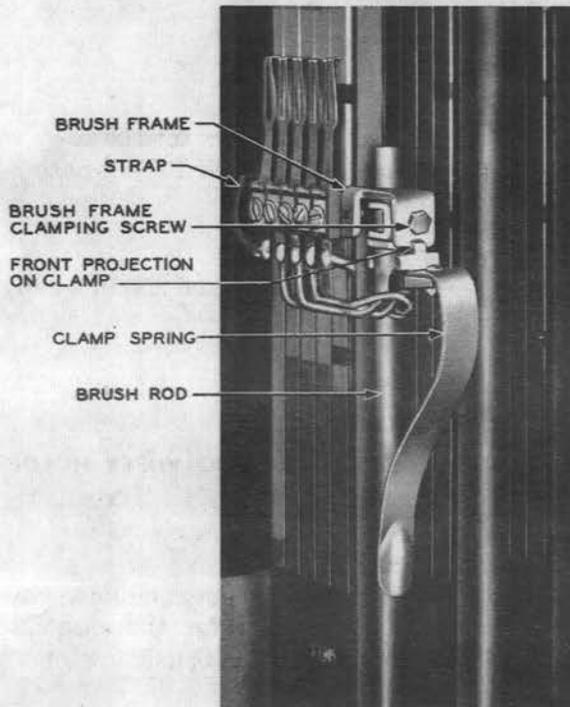

Fig. 1 - 613A Clamp Mounted in Position on Brush Rod
3.03 Raise the brush rod sufficiently to permit mounting the 613A clamp as shown in Fig. 1. To mount the clamp, proceed as follows. From the right of the brush rod, hook the clamp behind the rod just below the commutator brush frame. Raise the clamp against the frame so that the front projection on the clamp engages the front surface of the frame directly under the brush frame clamping screw. Pull the lower end of the clamp spring forward and position it on the front surface of the brush rod. Make sure that the end of the spring is centered on the rod and holds the clamp firmly in place. The clamp will hold the brush frame in position when the